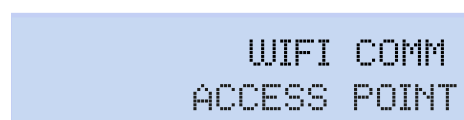

Figure 53: Communication setup menu, main screen.
**Figure 53** shows the main screen of the **Communications** setup menu, where the device's communication parameters are configured.